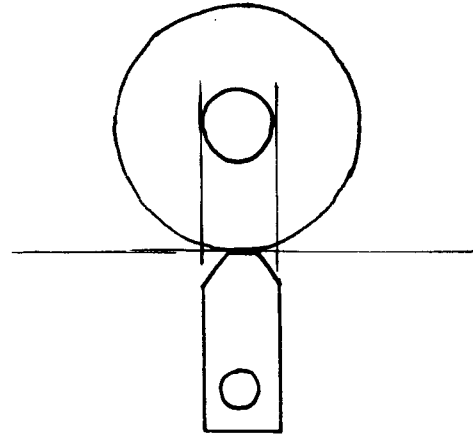

FIGURE 8
- 7.1.10 Adjust the rigid point on the flexible cam strip, part # MS-318, such that the edges of the tab are tangent to the edges of the inner hole of the roller (reference figure 8).